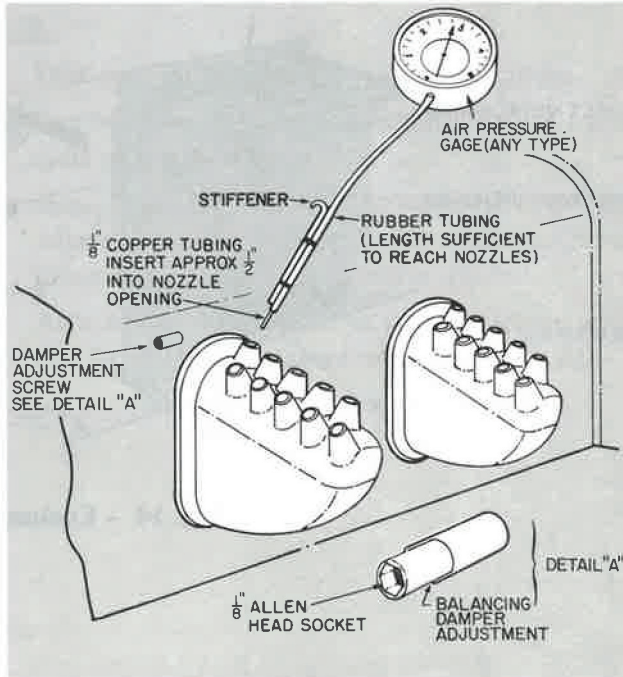

Fig. 14 — Pressure Measurements
2. Units are shipped with plenum damper wide open. Turn damper adjustment screw clockwise to close damper and decrease nozzle pressure to design value. Two or three runs may be necessary to obtain proper balance. Note that 36SL,SM,SC,ST have different nozzle types. Maximum allowable plenum pressure is 5 in. wg. See Fig. 14.